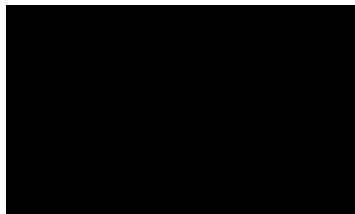

Figure 6
5. Secure the drawer with the 4 screws supplied. See Figure 6.